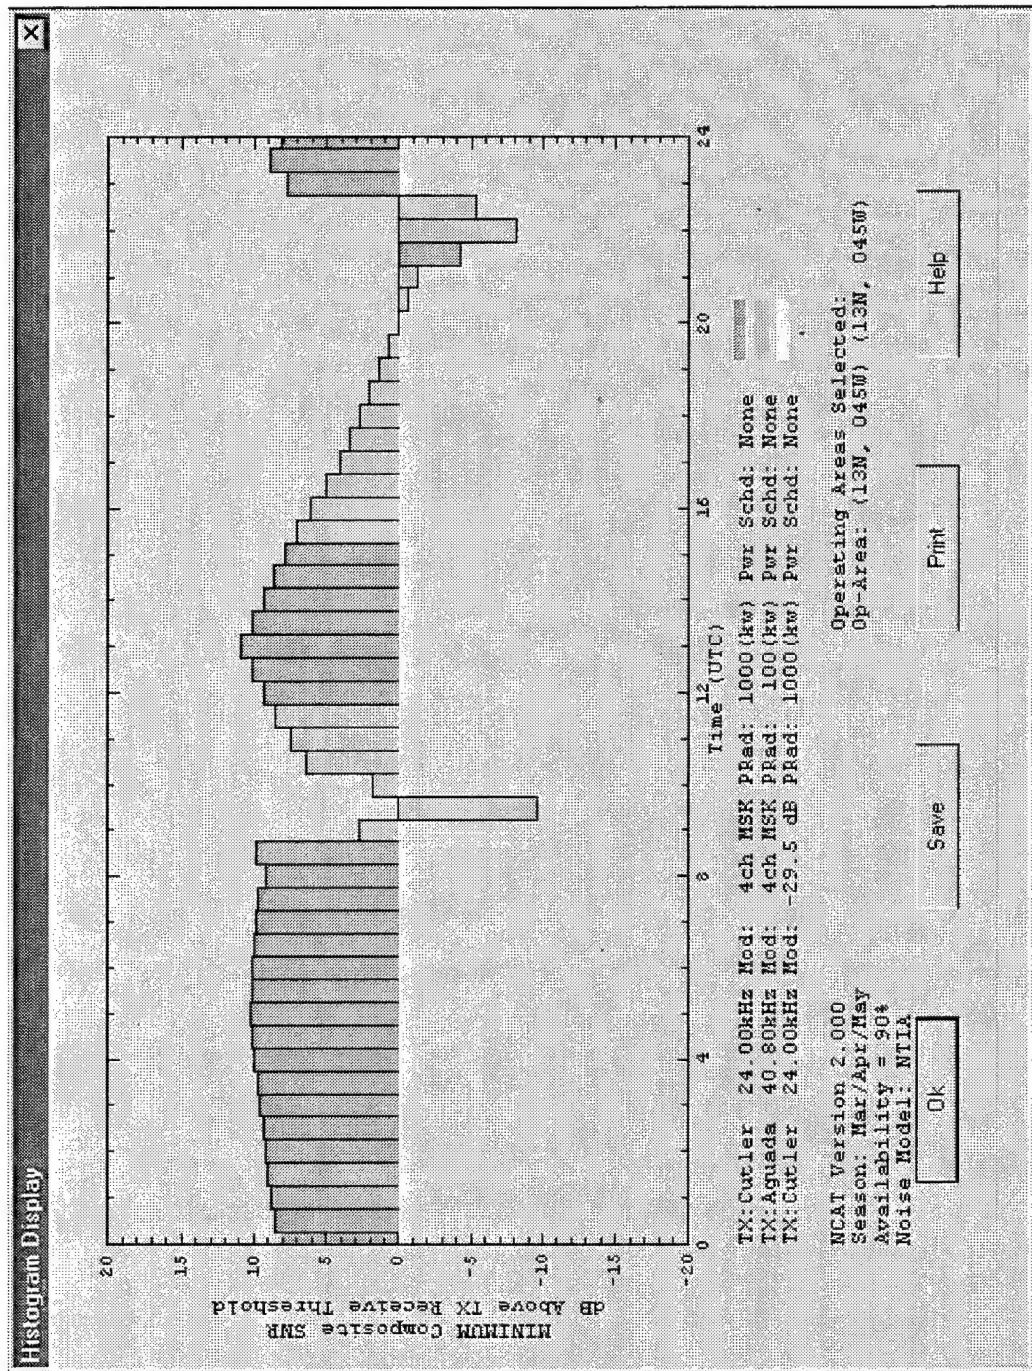

Figure 20. Example of a minimum composite SNR plot.
- A minimum composite SNR plot of the selected operating areas and transmitters selected. To perform a minimum composite plot, select Run Scenario -> Show SNR Composite (MIN).... Figure 20 is an example of a minimum composite SNR chart.